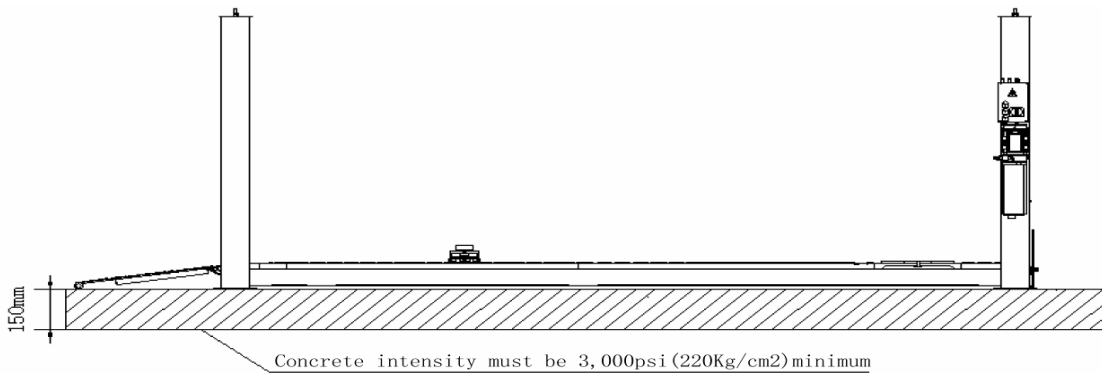

Fig. 3
B. CONCRETE SPECIFICATIONS (See Fig. 3)